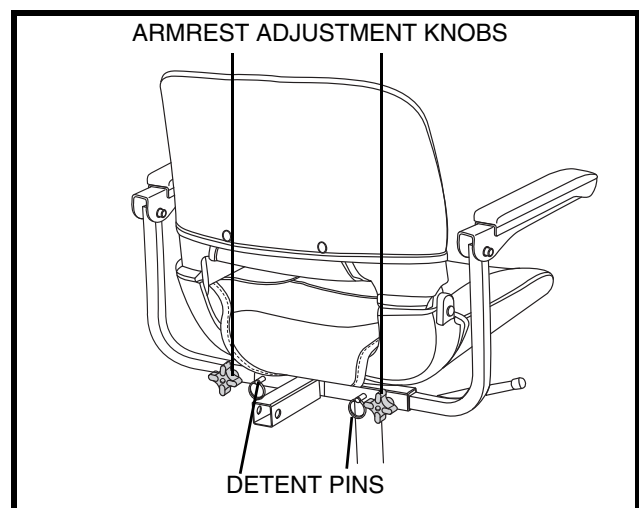

Figure 15. Armrest Width Adjustment
1. Loosen the armrest adjustment knobs. See figure 15.